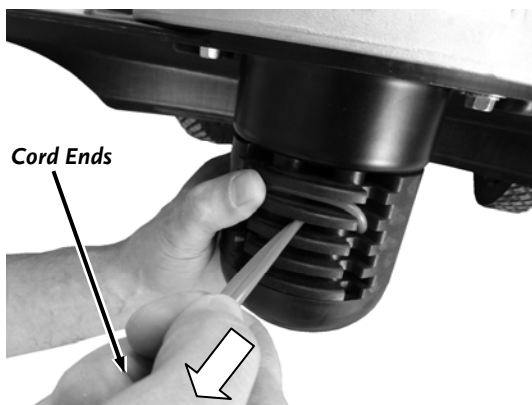

Figure 4
3. Pull the Cords under the loop and push the loop up into the Line Plate groove above them (**Figure 4**) and then pull the Cords tight.